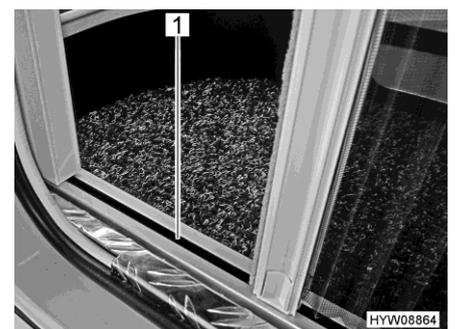

Fig. 57 Insect screen (bottom guide)
- ▷ Hold holding bar with both hands when closing or opening. This reduces the risk of the insect screen getting stuck in the guides (Fig. 57,1).